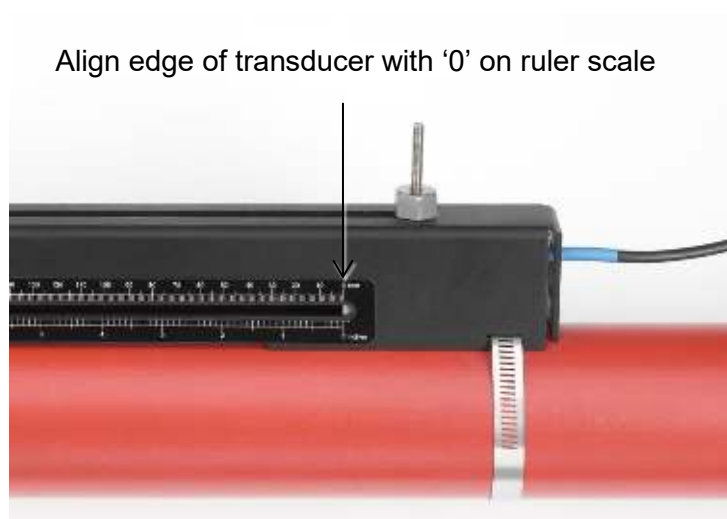

Figure 14 **Aligning edge of downstream transducer (blue) with zero on ruler scale**
5. Carefully slide the downstream transducer assembly along the guide rail until the inner face of the transducer is aligned with the '0' mark on the ruler scale (Figure 14).